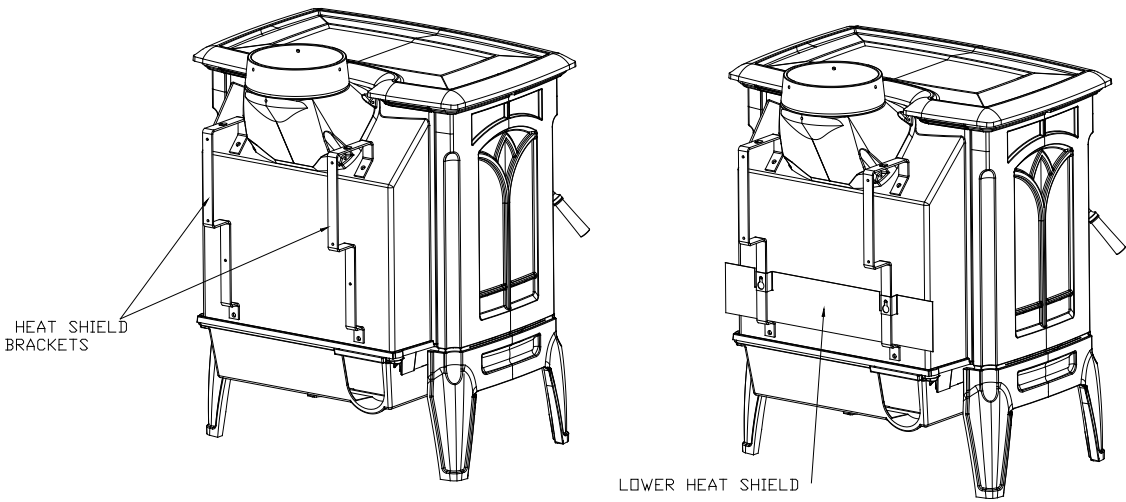

Figure 1
1. Install the heat shield mounting brackets. First locate the four screws on the back of the stove, two on the sloped surface of the back and the other two toward the bottom of the back about 6" from either side of center (*see figure 1 on page 2*). Using the Phillips screwdriver, remove the screws. Reuse the same screws to install the brackets by lining up the holes in the brackets with the threaded holes on the back of the stove. (Discard the bracket that is used in hold the rating label, it is no longer needed).
2. Place the eight screws (10-24 x 3/8") into the brackets leaving the upper six screws loose enough to slide the **heat shields** over them. Slide the **lower heat shield extension** on over the two screws shown in the left side of figure 1.